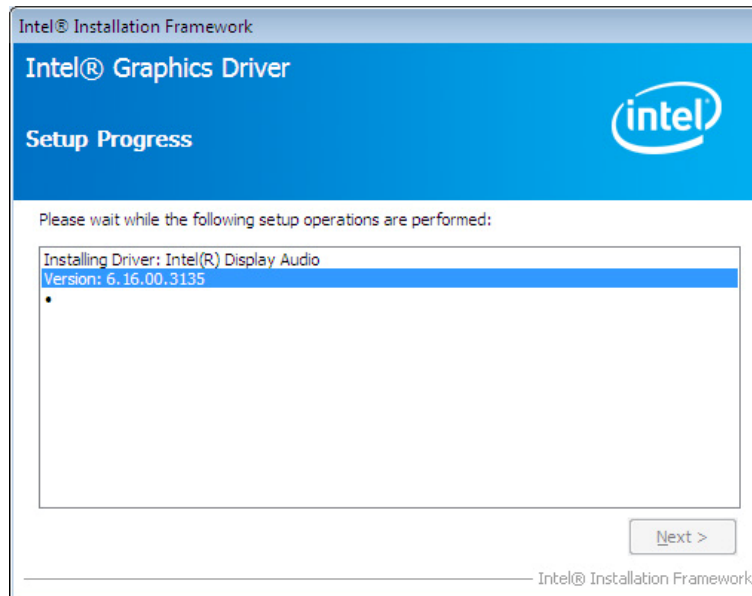

Figure 6-11: Graphics Driver Setup Progress
Step 10: Setup Operations are performed as shown in Figure 6-11.